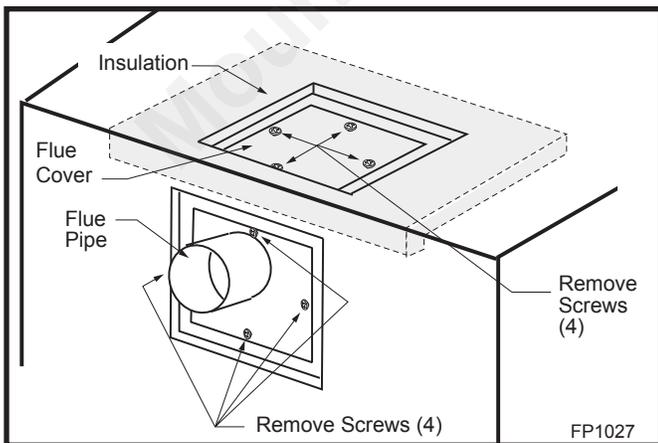

Fig. 12 Remove flue cover and flue pipe.
3. Remove insulation from top of unit and discard. Remove the four (4) screws securing flue cover to top of unit and remove flue cover. (Fig. 12)
4. Remove the four (4) screws securing flue pipe to back of unit. Remove flue pipe. (Fig. 12)